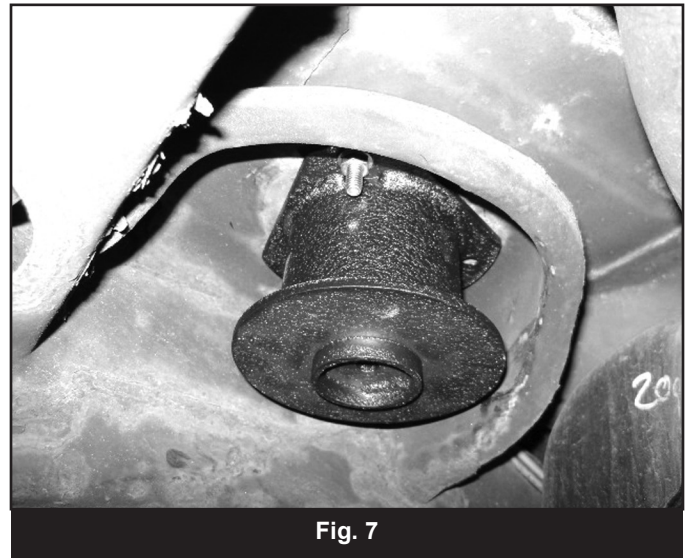

Fig. 7
19. Install the upper coil spacer and attach to carriage bolts with 5/16" serrated flanged nuts. Tighten to 25 ft-lbs. (Fig 7)
24. Reinstall the track bar bracket with the 9/16" hardware in conjunction with the provided 7/8" spacer sleeve (Fig 7). Leave loose.